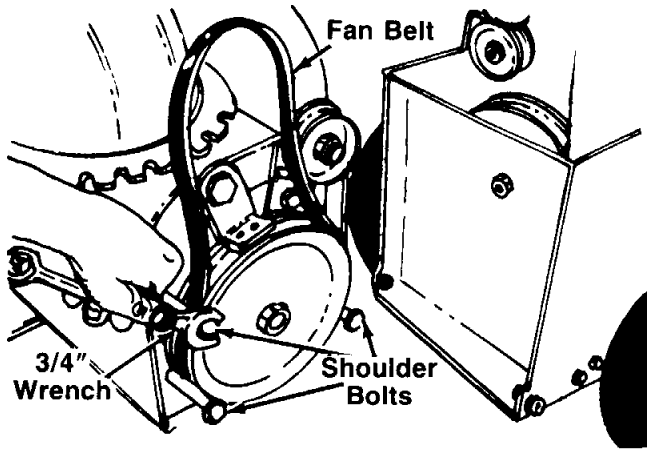

FIGURE 31.
6. Remove two engine pulley belt guards. See figure 31. Disconnect the fan belt from the engine pulley.
2. To remove fan belt, remove the three shoulder bolts and belleville washers at the auger pulley. Refer to figure 31. A 3/4" wrench is required.